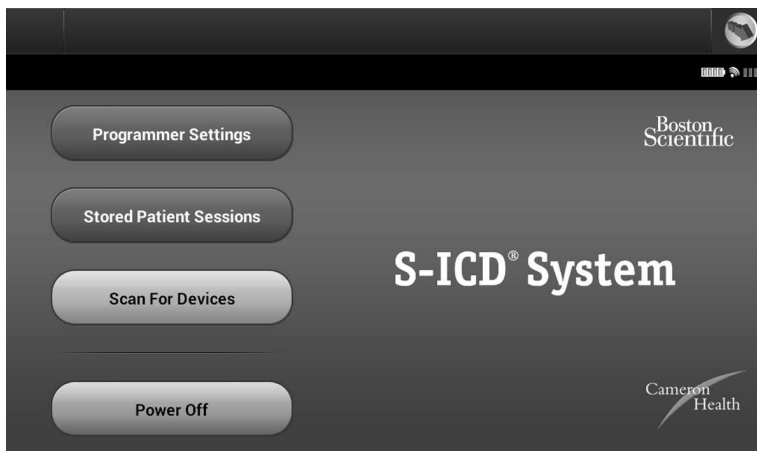
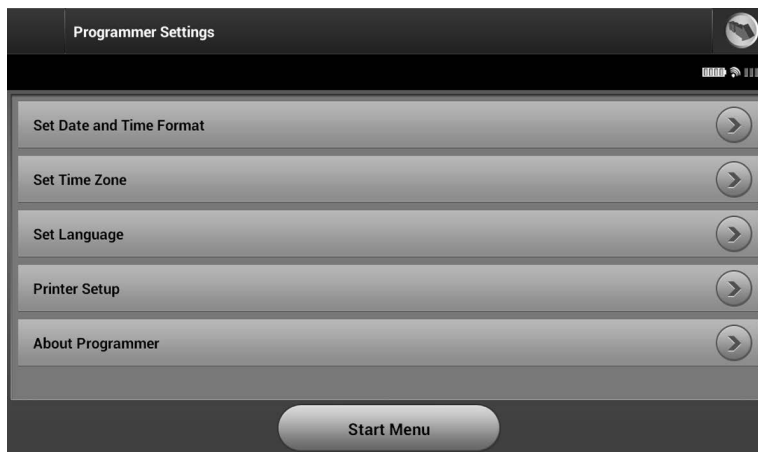
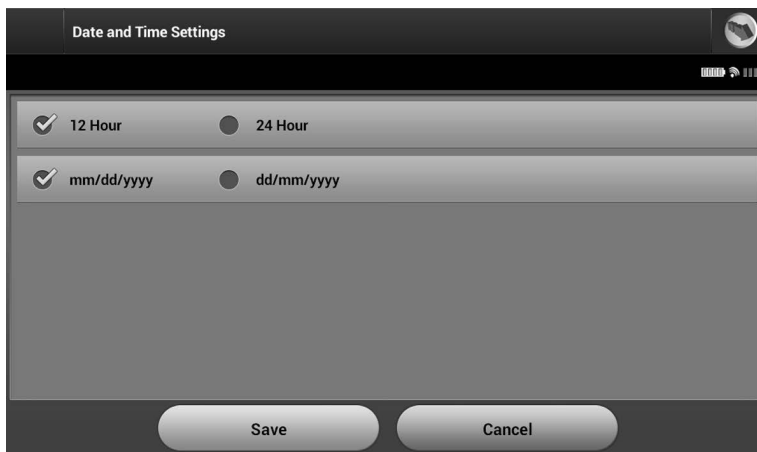

Figure 6: *Startup screen*
Figure 7: *Programmer Settings screen*
Figure 8: *Date and Time Settings screen*
1. Select the Programmer Settings button on the Startup screen (Figure 6) to display the Programmer Settings screen (Figure 7).
1. Select Set Date and Time Format on the Programmer Settings screen (Figure 7). The Date and Time Settings screen appears (Figure 8).